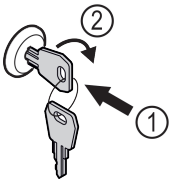

Fig. 160
- ▶ Insert key Fig. 160 (1).
- ▶ Turn key clockwise by 90° Fig. 160 (2).